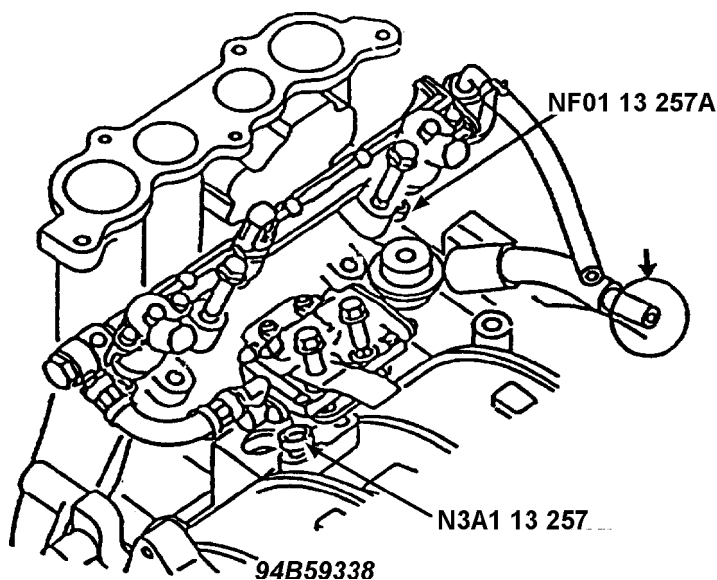

Fig. 25: Installing Fuel Distributors to the Engine
31. Install the primary fuel distributor and the secondary fuel distributor to the engine. See Fig. 25.
- 32-1. Apply adhesive to the hose end on the primary fuel distributor outlet side (indicated by the arrow in Fig. 25). To apply adhesive see step 27-1.